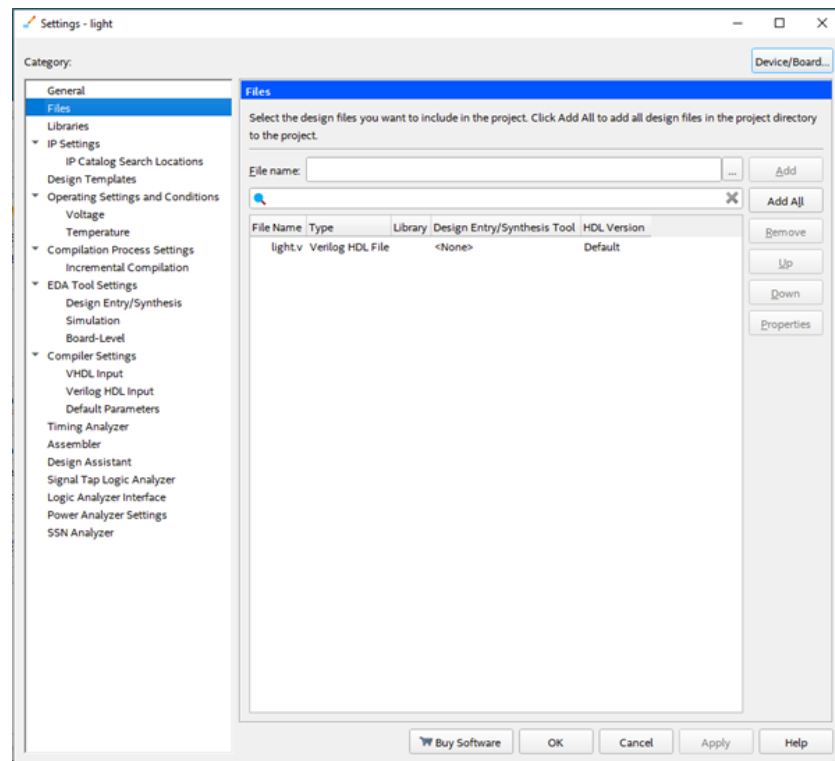

Figure 14. Settings window.
- select **Assignments > Settings**, which leads to the window in Figure 14. As indicated on the left side of the figure, click on the item Files.